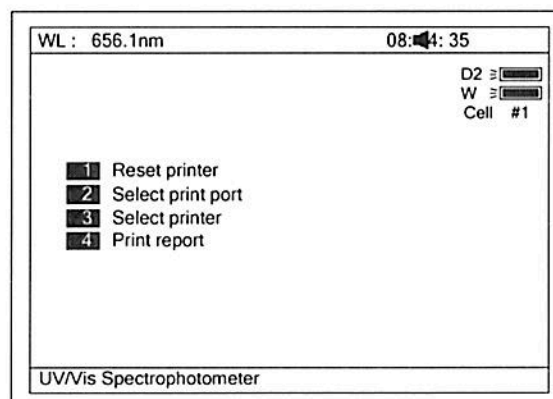
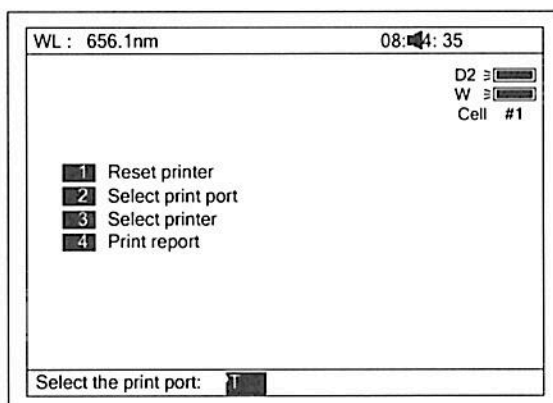
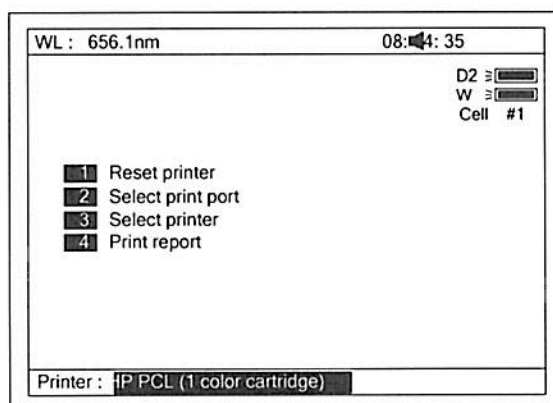
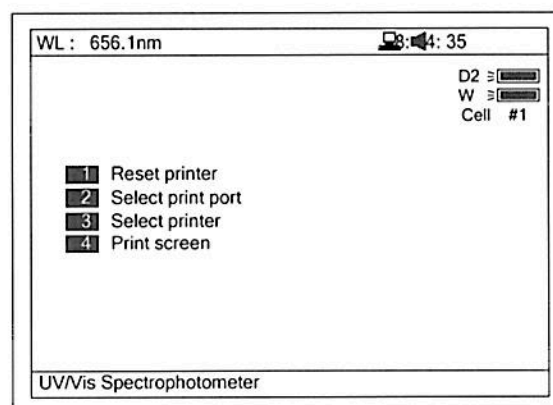

Fig 75
Fig 76
Fig 77
Fig78
Press **【2】** to set printer (Fig 75). **【ESC/STOP】** to exit.
1. Press **【1】** in Fig 75 to Reset Printer.
2. Press **【2】** in Fig 75 to select print port (LPT or Comm., Fig 76).
3. Press **【3】** in Fig 75 to select printer (HP PCL (1 colour cartridge), PCL (black mode), Epson ESC/P or Epson/P2 or above, Fig77).
4. Press **【4】** in Fig 75 to select print mode. If you select "Print screen" mode, a little icon will be displayed on the top line of the screen (Fig 78), if you select "Print report" mode, the little icon will disappear.